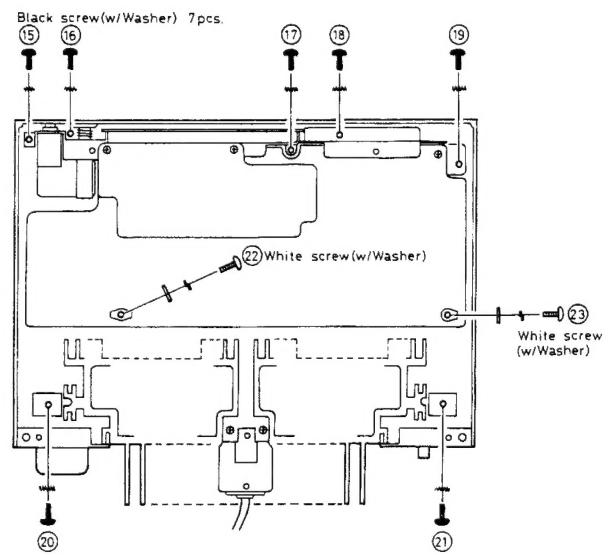

Fig. 4
5. Remove 9 setscrews (⑯ ~ ㉓ , in Fig.4) which secure printed circuit board, chassis and heat sink.
7. When installing, refer to Fig. 4 and pay attention to installing positions.